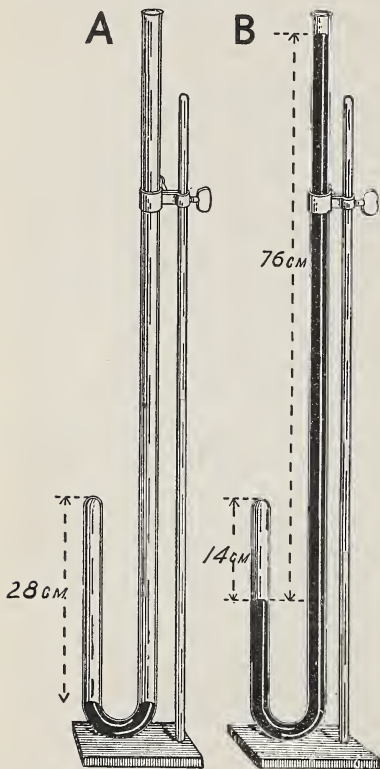

Fig. 17.—Apparatus Used to Verify Boyle's Law
*Procedure:* 1. Pour sufficient mercury in the open end of the tube to fill the curved part of the J and bring the level of the mercury to the same level in each branch as in A, Figure 17. When this condition has been obtained the pressure of the air on the surface of the mercury in the long tube is exactly equal to the pressure of the trapped air in the shorter tube; that is, pressure of one atmosphere. Note the length of the air column in the closed branch.